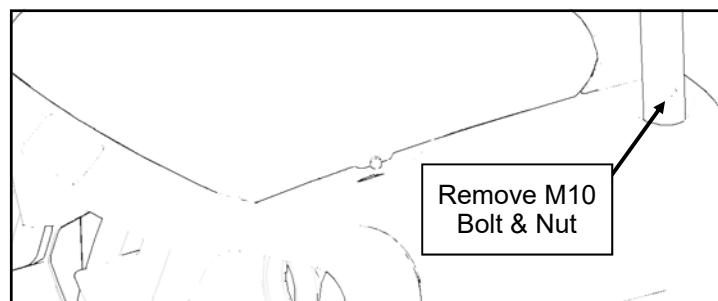

Figure 1.5: Lower front ROPS screws
- 1.5 Remove the M10 bolt and nut at the bottom of the front ROPS tubes, to the side of the dashboard, on both sides of the vehicle. (**Figure 1.5**).